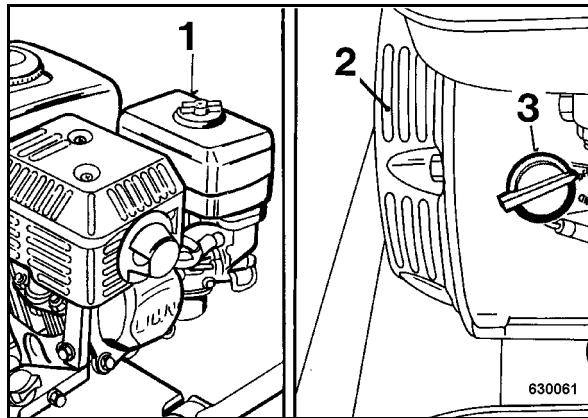

Fig. 31
Do not guide the water jet directly into air filter/ carburettor (1) (Fig. 31), starter/air intake (2) and the ignition switch (3).